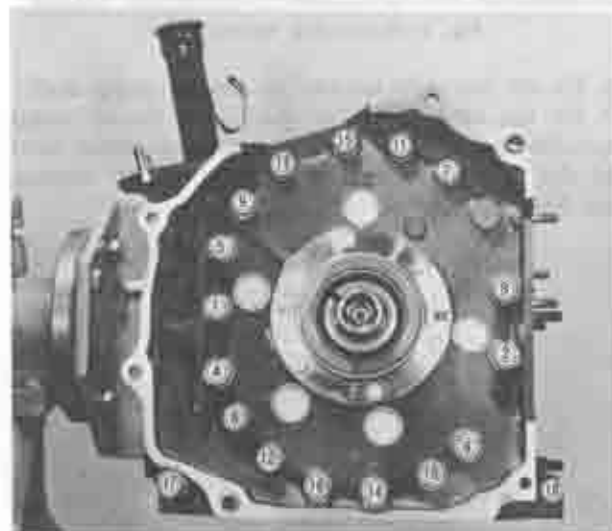

Fig. 1-72 Tension bolt tightening order
3. Fit the tension bolts and tighten the bolts in the order shown in Fig. 1-72. The specified torque is 3.2 ~ 3.8 m·kg (23 ~ 27 ft·lb). Do not tighten the tension bolts at one time.